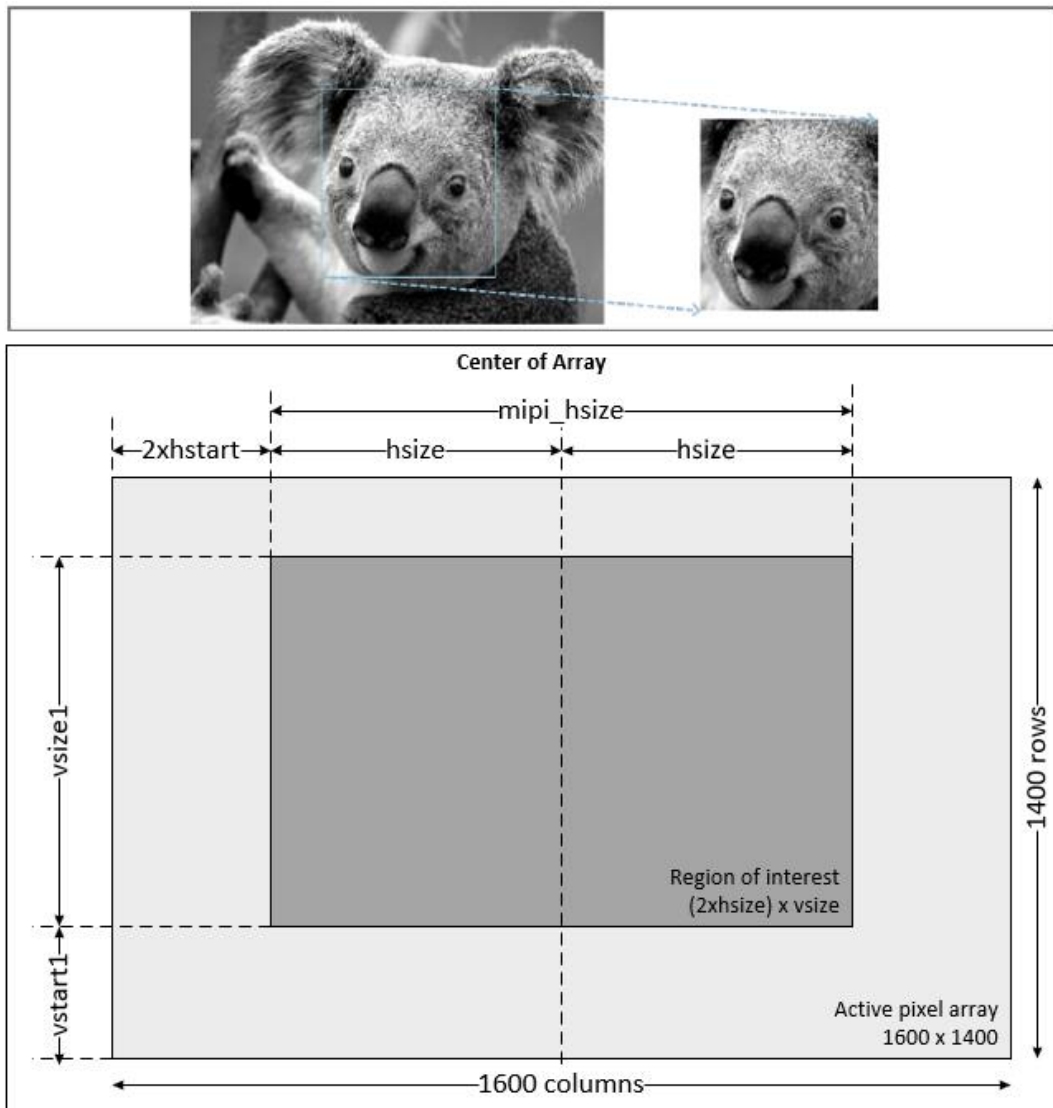

Figure 3-2 : ROI Windowing
- As you saw in Figure 3-2, $1600 = 2 \times HSTART$ (Front Porch) + $2 \times HSIZE$ + $2 \times HSTART$ (Back Porch).
- As you saw in Figure 3-2, $1400 = VSIZE + 2 \times VSTART$ (**Vertical Blanking**).